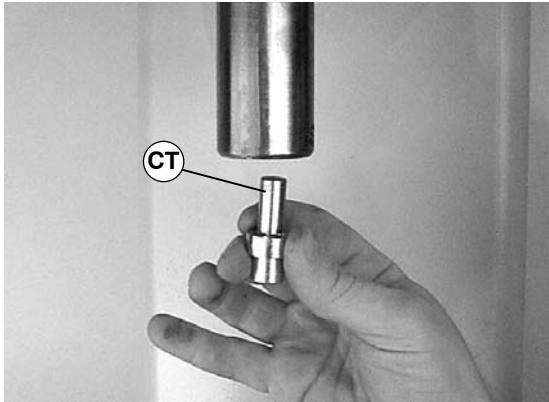

Figure 53
2. Install bearing insertion tool (part # 25-10†) (CT of Figure 53) into arbor press or similar device.